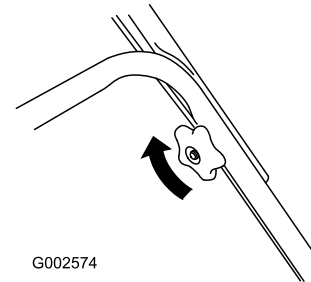

Figure 5
2. Tighten the handle knobs (Figure 5).